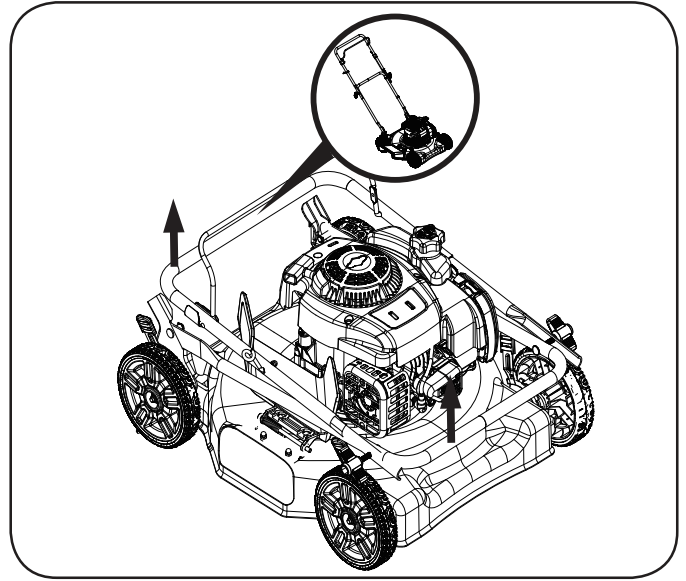

Figure 2
1. Raise handle from folding position to working position (Figure 2).